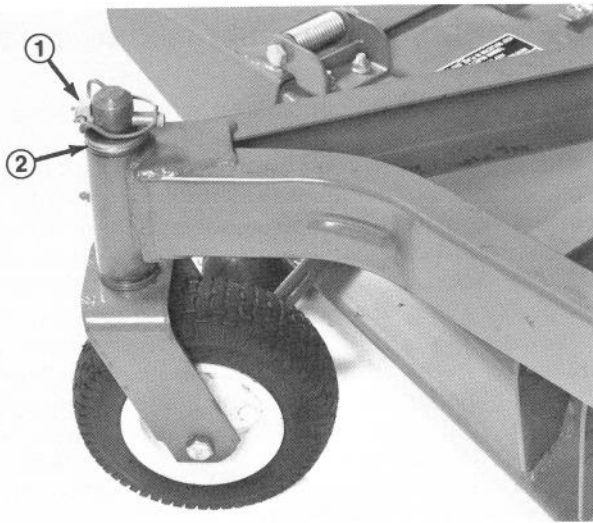

Figure 19
2. Remove lynch pin and thrust washers from top of castor spindle (Fig. 19).
4. Insert pin punch into top or bottom of mounting tube and drive bushing out of tube (Fig. 19). Also drive other bushing out of tube. Clean inside of tubes to remove dirt.